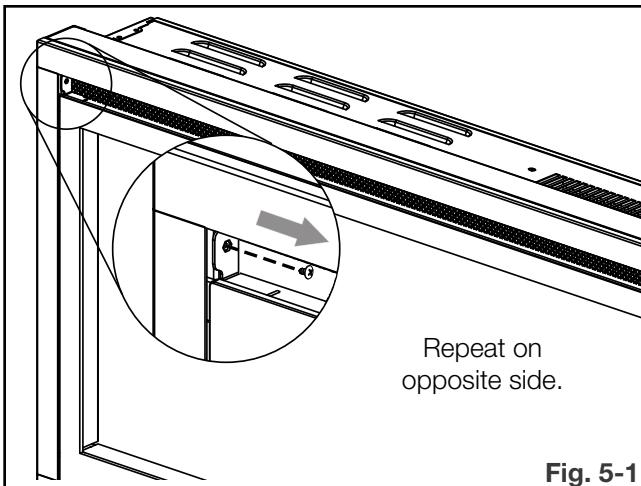

Fig. 5-1
- Remove the two screws holding the glass retaining brackets in place (**Fig. 5-1**). Set the screws aside.